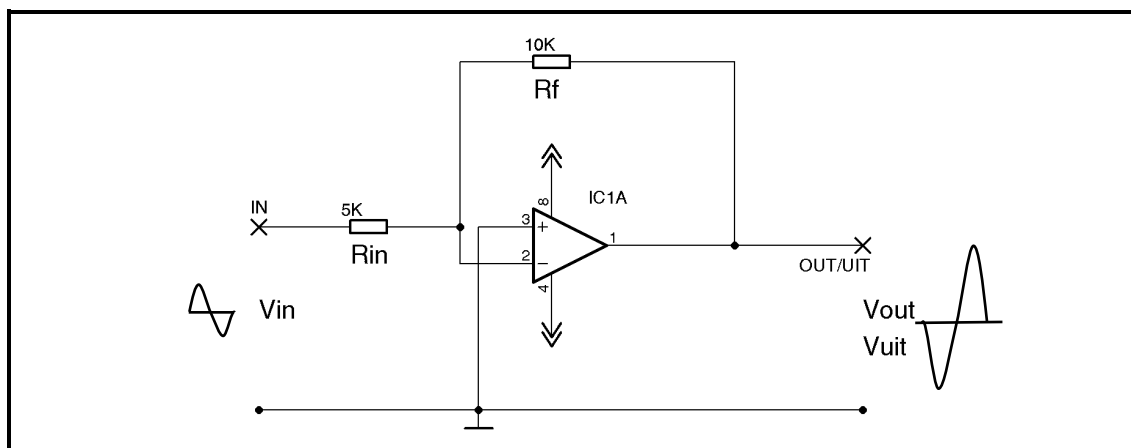

FIGURE 7.2: OP-AMP CIRCUIT
7.8 Refer to FIGURE 7.2 to answer the questions that follow.